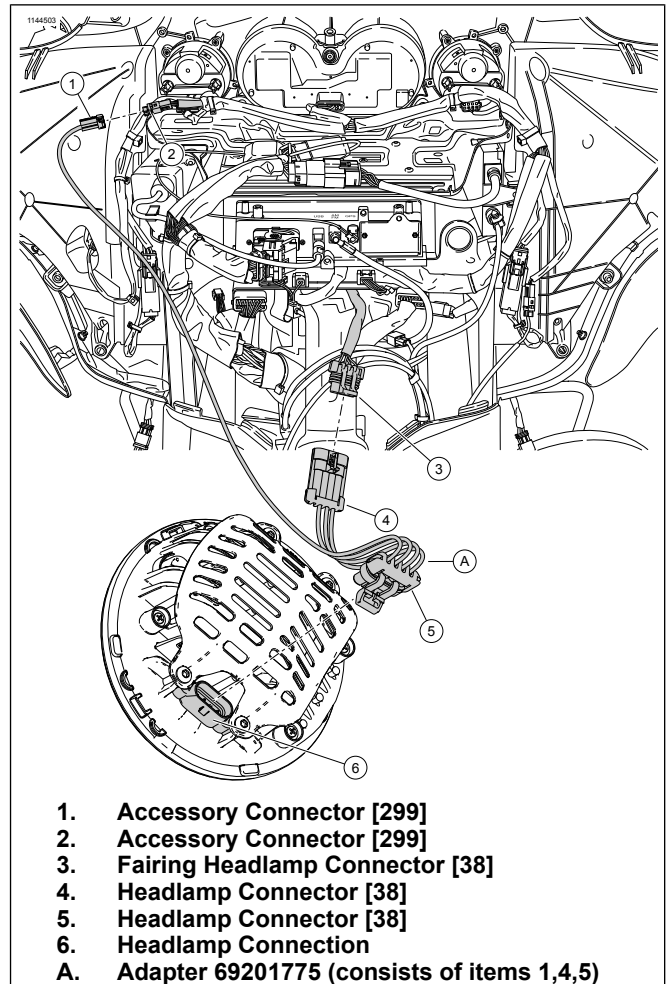

Figure 4. Accessory Connectors - Touring
See Figure 4. Harness 69201775 provides an optional connection to vehicle accessory connector (2) that forces
2014-Later Touring: See Figure 4. If other accessories are connected to the vehicle accessory connector (2), adapter 69200921 may be required to perform optional installation steps.
1. See Figure 4. If outer fairing was removed, perform step 1a and 1b. Otherwise, skip to step 2. Locate vehicle accessory connector (2).
- a. Connect 2-way accessory connector (1) of 69201775 to vehicle accessory connector (2).
2. If optional removal step was not performed, cut off electrical tape and secure accessory connector (1) wire of harness 69201775.
4. Connect headlamp connectors (4 and 5) on harness 69201775 between fairing headlamp connector (3) and headlamp connection (6).